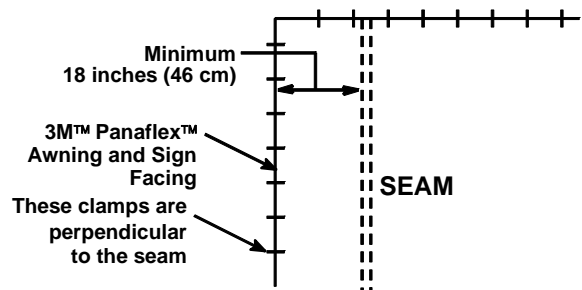

Figure 2. 3M™ Panaflex™ Awning and Sign Facing with Seams
- Be sure any seam is at least 18 inches (46 cm) away from any attachment hardware that is perpendicular (at right angles) to the seam. See Figure 2.